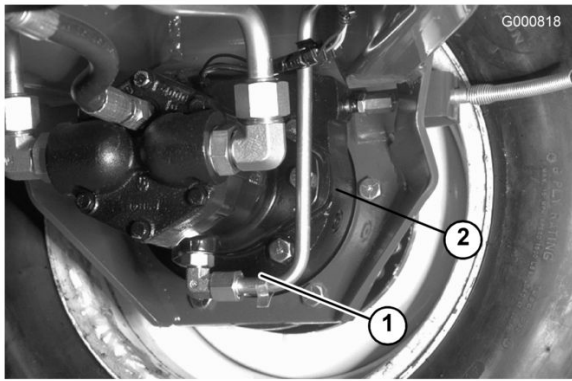

Figure 67
3. Remove both plugs from the bottom of the brake housing and allow the oil to drain (Figure 67).